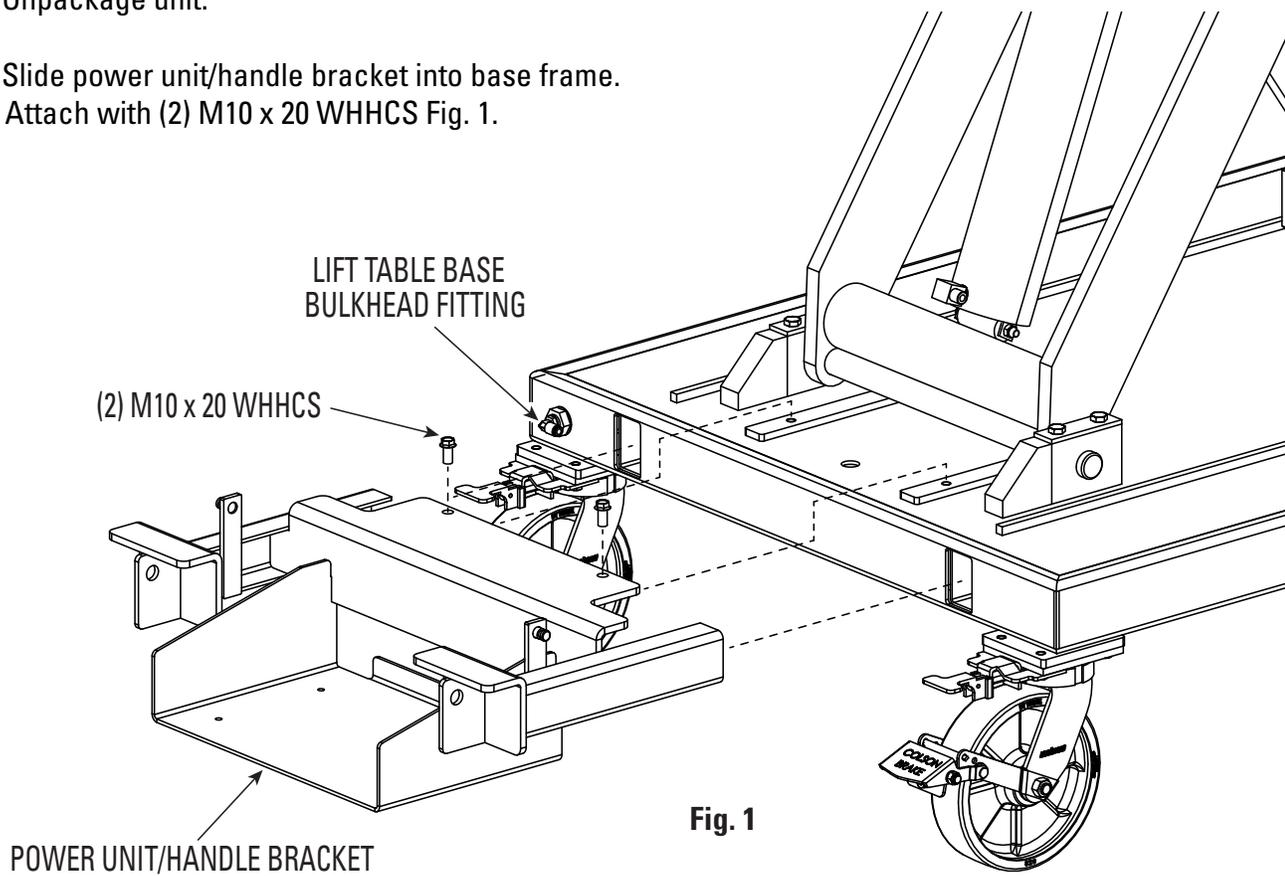

Fig. 1
Attach with (2) M10 x 20 WHHCS Fig. 1.
- 7.) Attach 1/4 NPT male 90° swivel to the rear of the bulkhead fitting. Run 1/4" plastic air line to the power unit 1/4 NPT male 90° swivel (rear port of power unit) routing both airlines down handle, wire tying to handle approx. every 12". **IMPORTANT** Always use pipe tape/dope on all pipe fittings. Attach 4mm male x 8mm female adapter to the 8mm x 6mm female union as shown. Attach the 4mm tube to the 4mm push loc and then cut a suitable length of 6mm tube installing from the union above to the 90° pre-installed on the base bukklhead, Figs. 1 and 4.